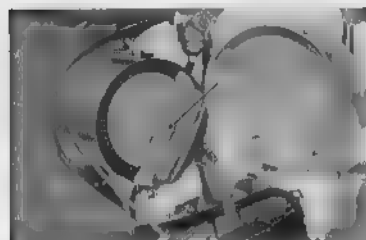

Fig. 4.67 Removing air cleaner mounting bolts (S 90)
Remove the air cleaner dust cover screws, one each on the right and left side and take off the cover (1). Unscrew the air cleaner mounting bolt (2) (Fig. 4.67).